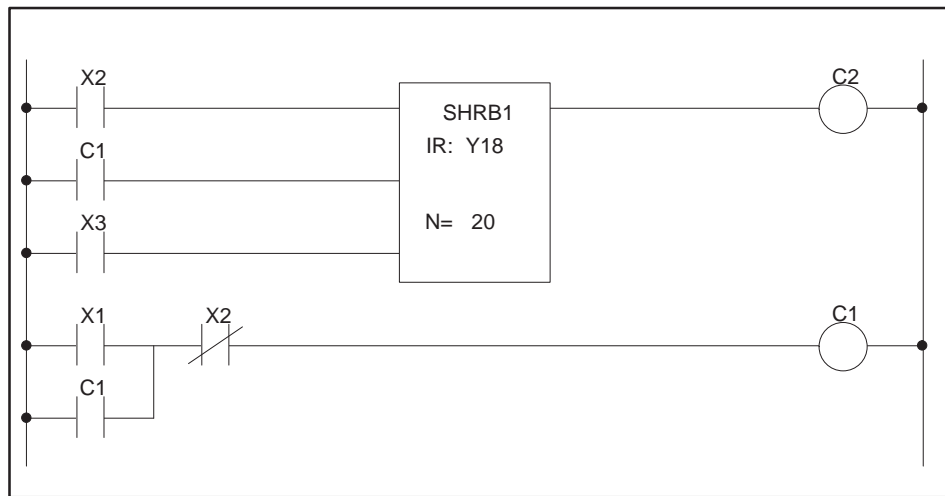
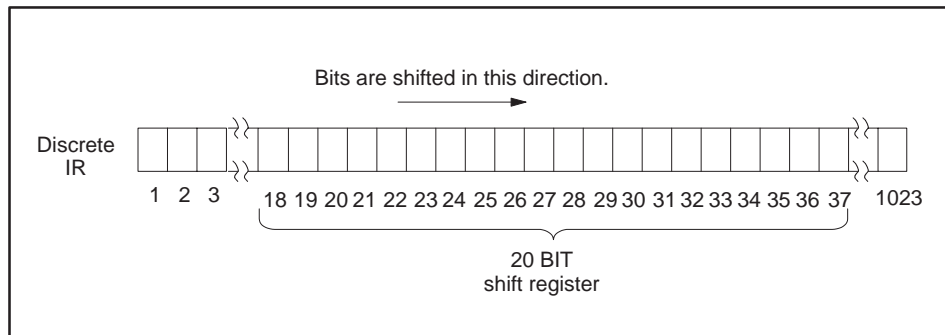

Figure E-2 RLL for SHRB Application Example
Figure E-3 20-Bit Shift Register in Discrete Image Register
The RLL solution is shown in Figure E-2.
- In Figure E-2, a shift register provides a 20-bit register for controlling the SHRB application. The 20-bit shift register, SHRB1 (shown in Figure E-3), controls the REJECT lamps at the 20 assembly stations.